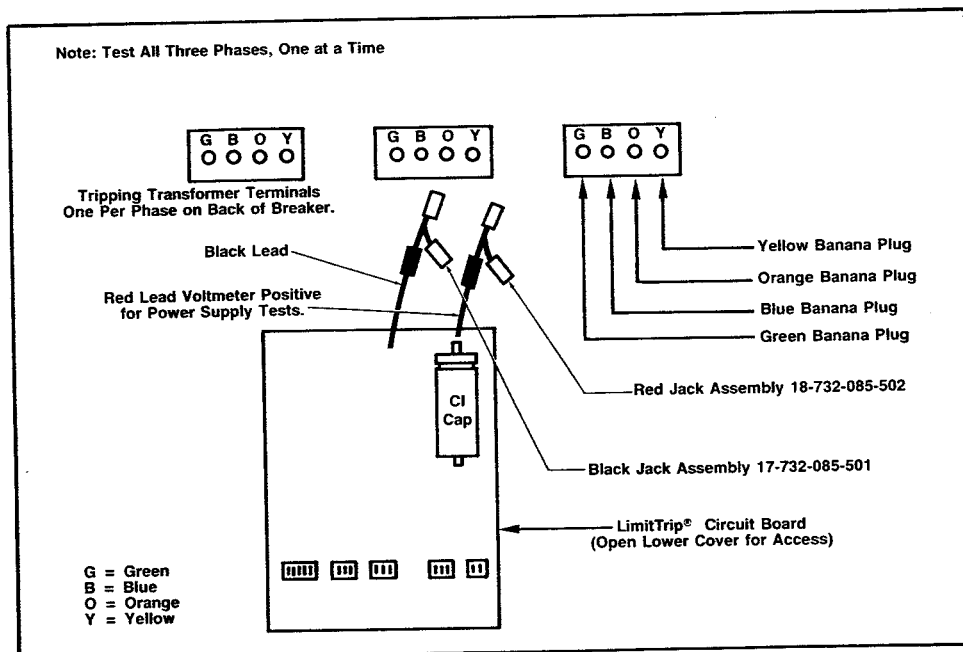

Figure 19. Limitrip Test Connections
The connections to the sensor terminals at the rear of the circuit breaker are made as shown in **Figure 19**. To test A phase, make the following cord set banana plug connections at the terminals of the A phase Sensor Transformer: Blue banana plug into terminal B (power lead), Green banana plug into terminal G (power lead), Yellow banana plug into terminal Y (signal lead), and the Orange banana plug into terminal O (signal lead). To test the other phases, move all four banana plugs to the Sensor terminals of the phase being tested. Note, on Sensor transformers rated 2000 amperes and up, it is necessary to disconnect either the blue or green the lead from the transformer and connect the test set directly to the Limitrip device because the low impedance of the power winding may prevent tripping.
6. When the trip device operates, check the reading of the stop clock against the curves shown in **Figure 19**. The reading should be within the limits shown on the curve.
8. Repeat for the other phases, time delay bands and other values of current, as desired. All test points should fall within the bands shown on **Figure 19**. Each band should have precisely twice the delay of the next lower band when all other conditions are the same.